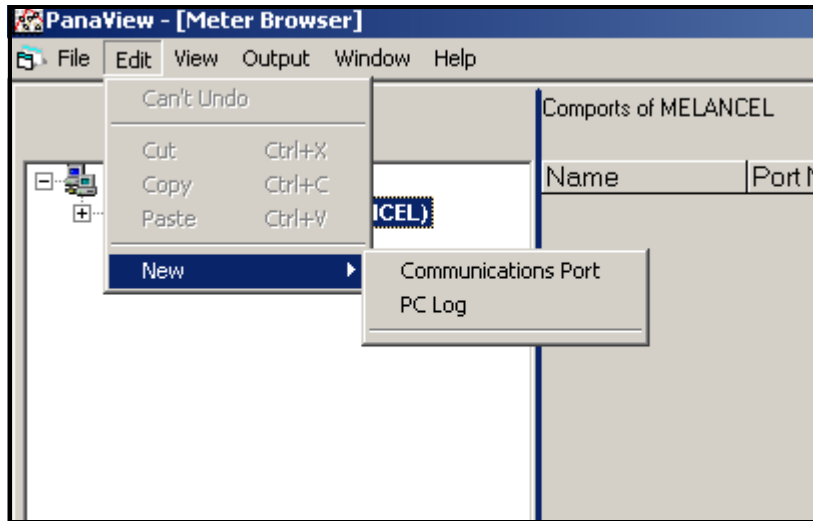

Figure 18: Edit Menu
3. Click on the "New" menu option to select it, and a submenu opens with two choices on it (see Figure 18 below).